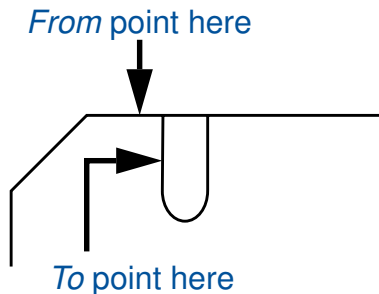

Figure 2-37. Making the First Fillet
12. Choose the **[Shapes] Add Arc > Make Fillet** menu item. Enter 0.1 for the radius, then press the TAB key to be prompted for the *From* point. Make sure the Clip Option is set to **clip_both**. Place the cursor on the horizontal line near the top of the left side of the slot, and click the Select mouse key. When you are prompted for the *To* point, place the cursor on the vertical line of the left edge of the slot, and click the Select mouse button again. Refer to Figure 2-37.